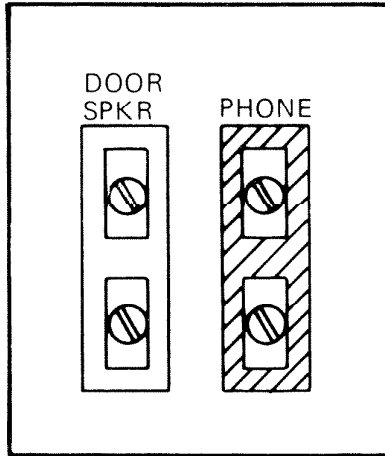

FIGURE 5
2. Connect two wires from the door speaker to the two terminal screws marked **DOOR SPKR** on the terminal board. See Figure 5.